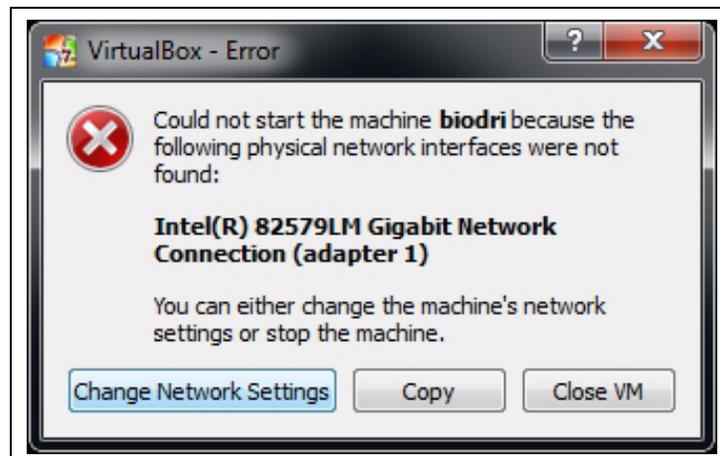

Figure 11C
2. Upon initial setup, you will need to set the network to be used. Select Change Network Settings. (See Figure 11C.)